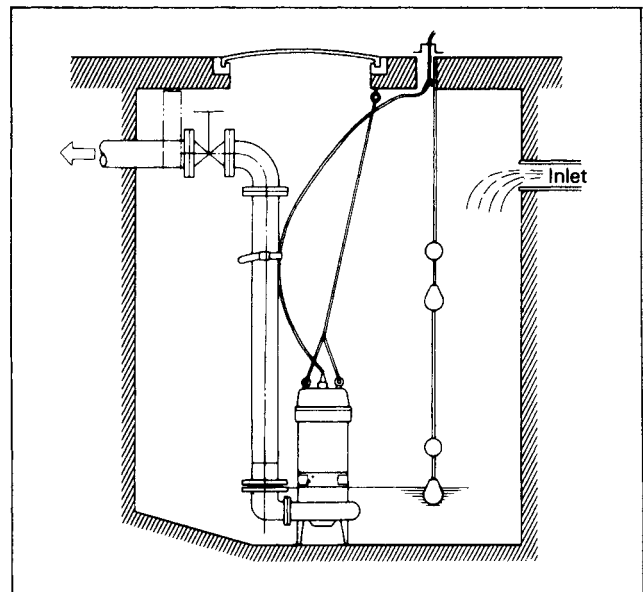

Fig. 1
5. If there is a flow of liquid inside the tank, support the cable where appropriate. (See Fig. 1)